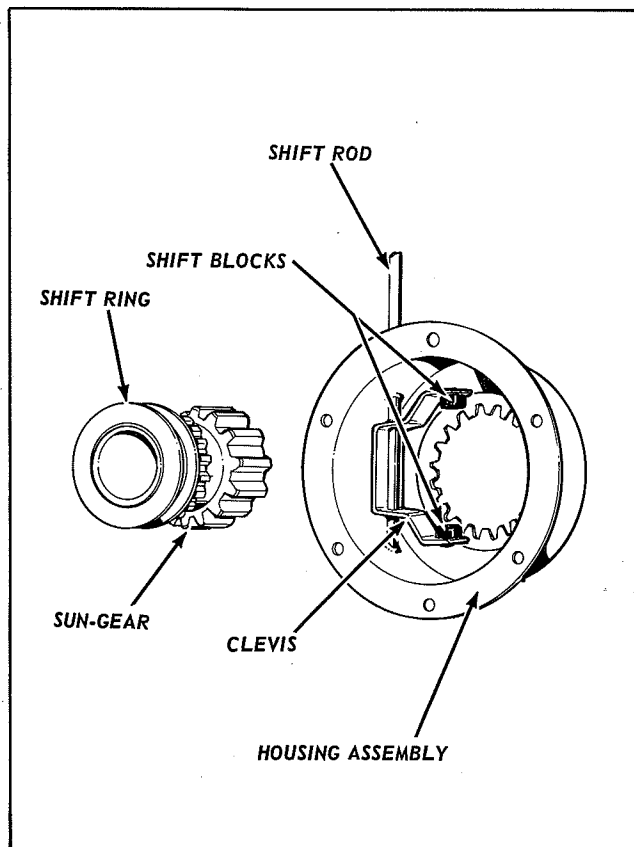

Figure 1
1. With shift rod and clevis in place in the housing assembly as shown in Figure 1, turn the shift rod and clevis to allow the sun-gear to be installed into the housing assembly. Position the shift blocks in the ring on the sun-gear as the gear is slid into place in the housing assembly.